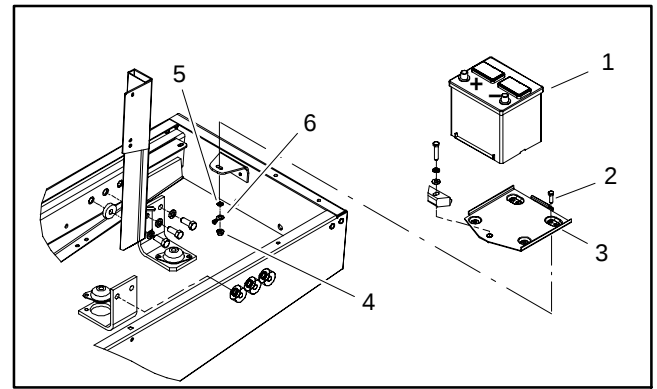

Figure 12
5. Remove cap screws and flange nuts that secure battery base to brackets. Remove battery base from machine (Fig. 12).
17. Position battery base to brackets and secure with cap screws and flange nuts (Fig. 12).